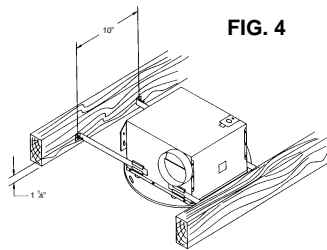

FIG. 4
OPTION #2: Insert (4) mounting brackets with angels pointing away from housing. In location between ceiling joists where housing will be located, drive (2) nails (4D or 6D) 1 1/8" from the bottom of the joist, 10" apart leaving 1/4" of nail projecting. Position one set of mounting brackets over nails and drop into place. Extend remaining mounting brackets to the adjacent joist and repeat nailing procedure. See Fig. 4. Finish driving nails and adjust housing between ceiling joist.